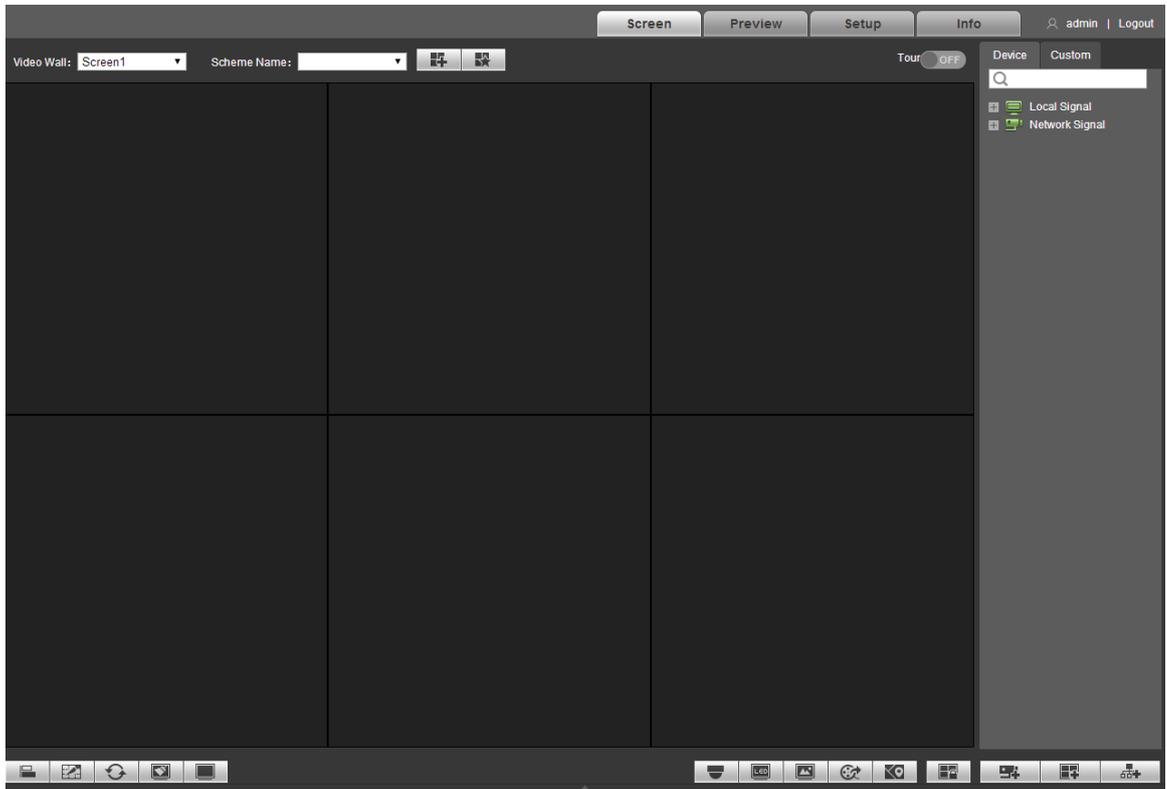

Figure 3-3
Step 4 Input username and password, and click “Login” to login the system. The system displays Figure 3-3.